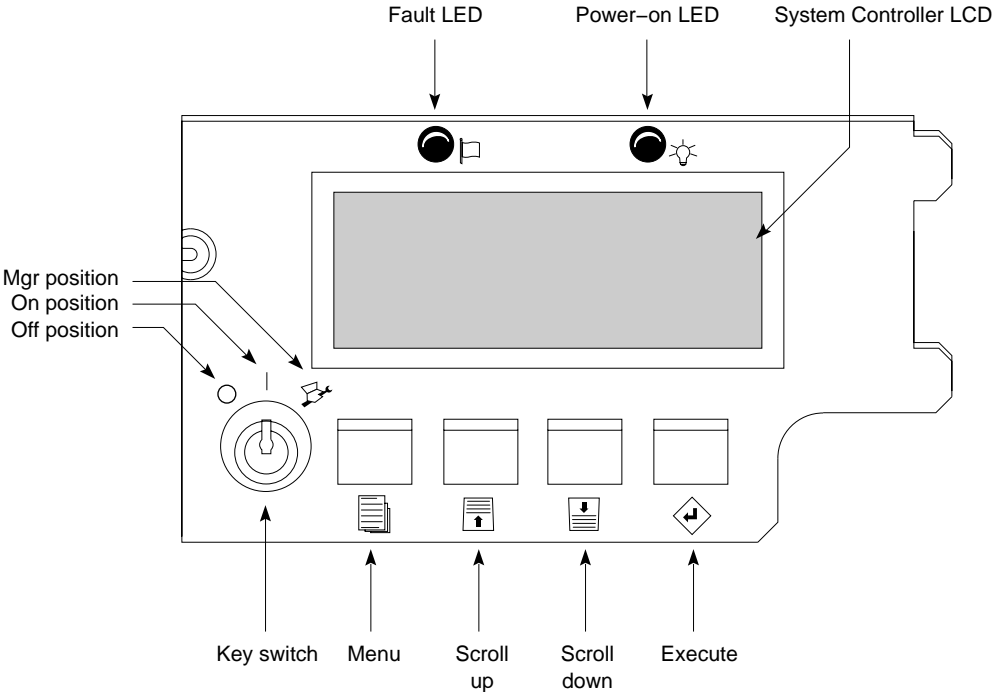

Figure 3-4 Key Switch Positions on the System Controller Front Panel
2. Turn the System Controller key switch to the Off position to eliminate all power to the boards and peripherals. See Figure 3-4.
See Figure 3-4 for the location of the key switch and the Off and On positions.